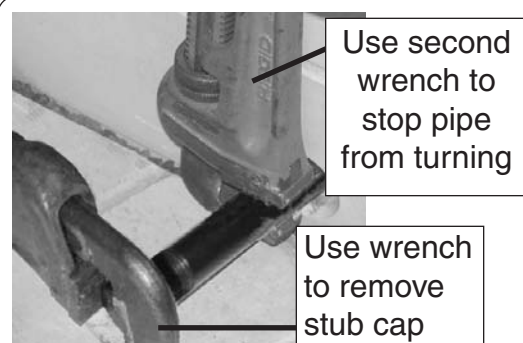

Fig. 13-2 Removing the stub cap
4. Locate the gas-supply stub inside the fireplace and remove the cap, if attached (see Fig. 13-2).